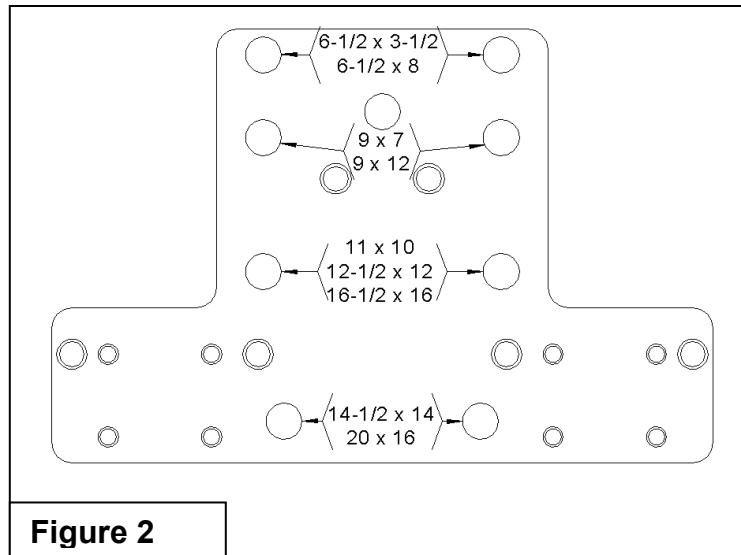

Figure 2
6. Install the Limit Valve Mounting Plate supplied, using parts in the Limit Valve Mounting Kit. Clearance holes, used for mounting, are labeled for installation on different size actuators in Figure 2.